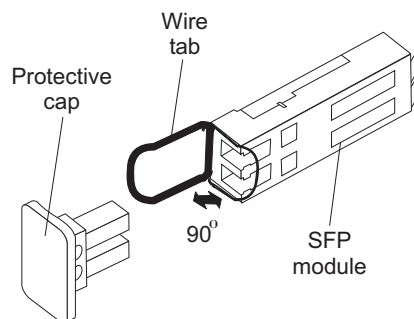

Figure 31. Unlocking the SFP module latch - wire variety
- For SFP modules that contain wire tabs, unlock the SFP module latch by pulling the wire latch outward 90°, as shown in Figure 31 on page 51.